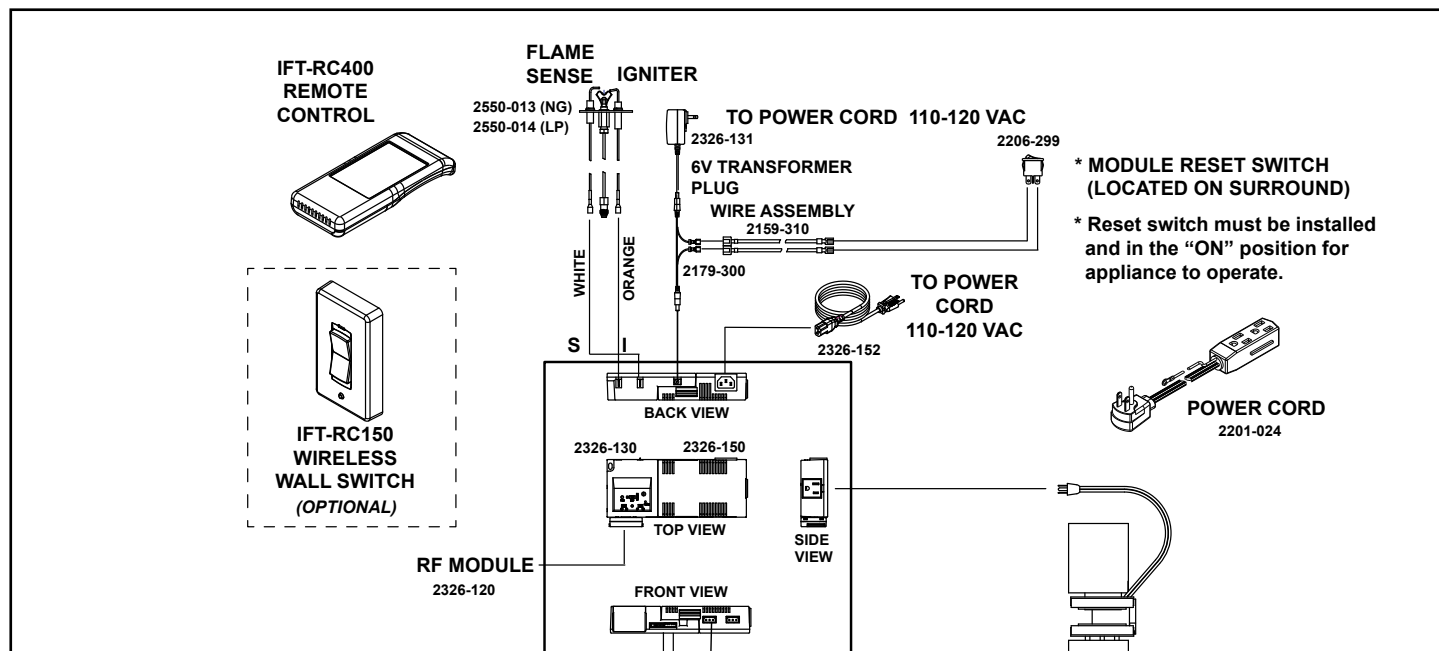

Figure 3.19 Flooring & Hearth Material
- All flooring and hearth material must remain below the bottom of the surround. See Figure 3.19.